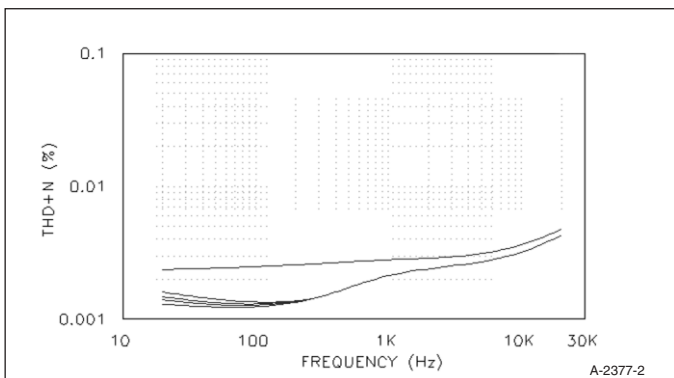

FIGURE 2: THD+N versus frequency.
*Figure 2* shows the THD+N vs. frequency for each interconnect with the test set 80kHz low-pass filter engaged. Top to bottom at 20Hz, the samples are Kimber, tin-plated, Supra, Solutions, and RG58/U. I consider the RG58/U data to represent the residual noise level of the distortion test set oscillator.